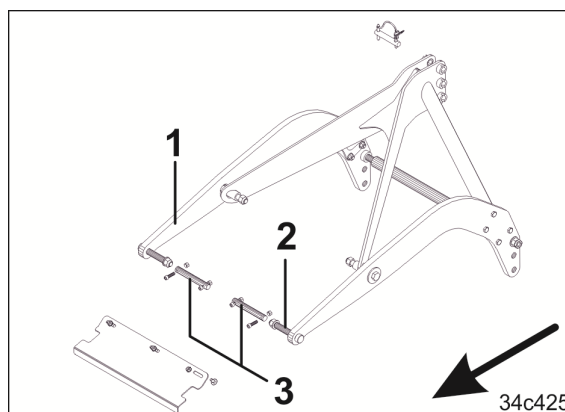

Fig. 101
2. Fasten the front attachment frame (Fig. 101/1) to the
- o KE 3000 with the threaded pins (Fig. 101/2)
- o KE 3500 and KE 4000 with the Cat. II/III lower link pins (Fig. 101/3).